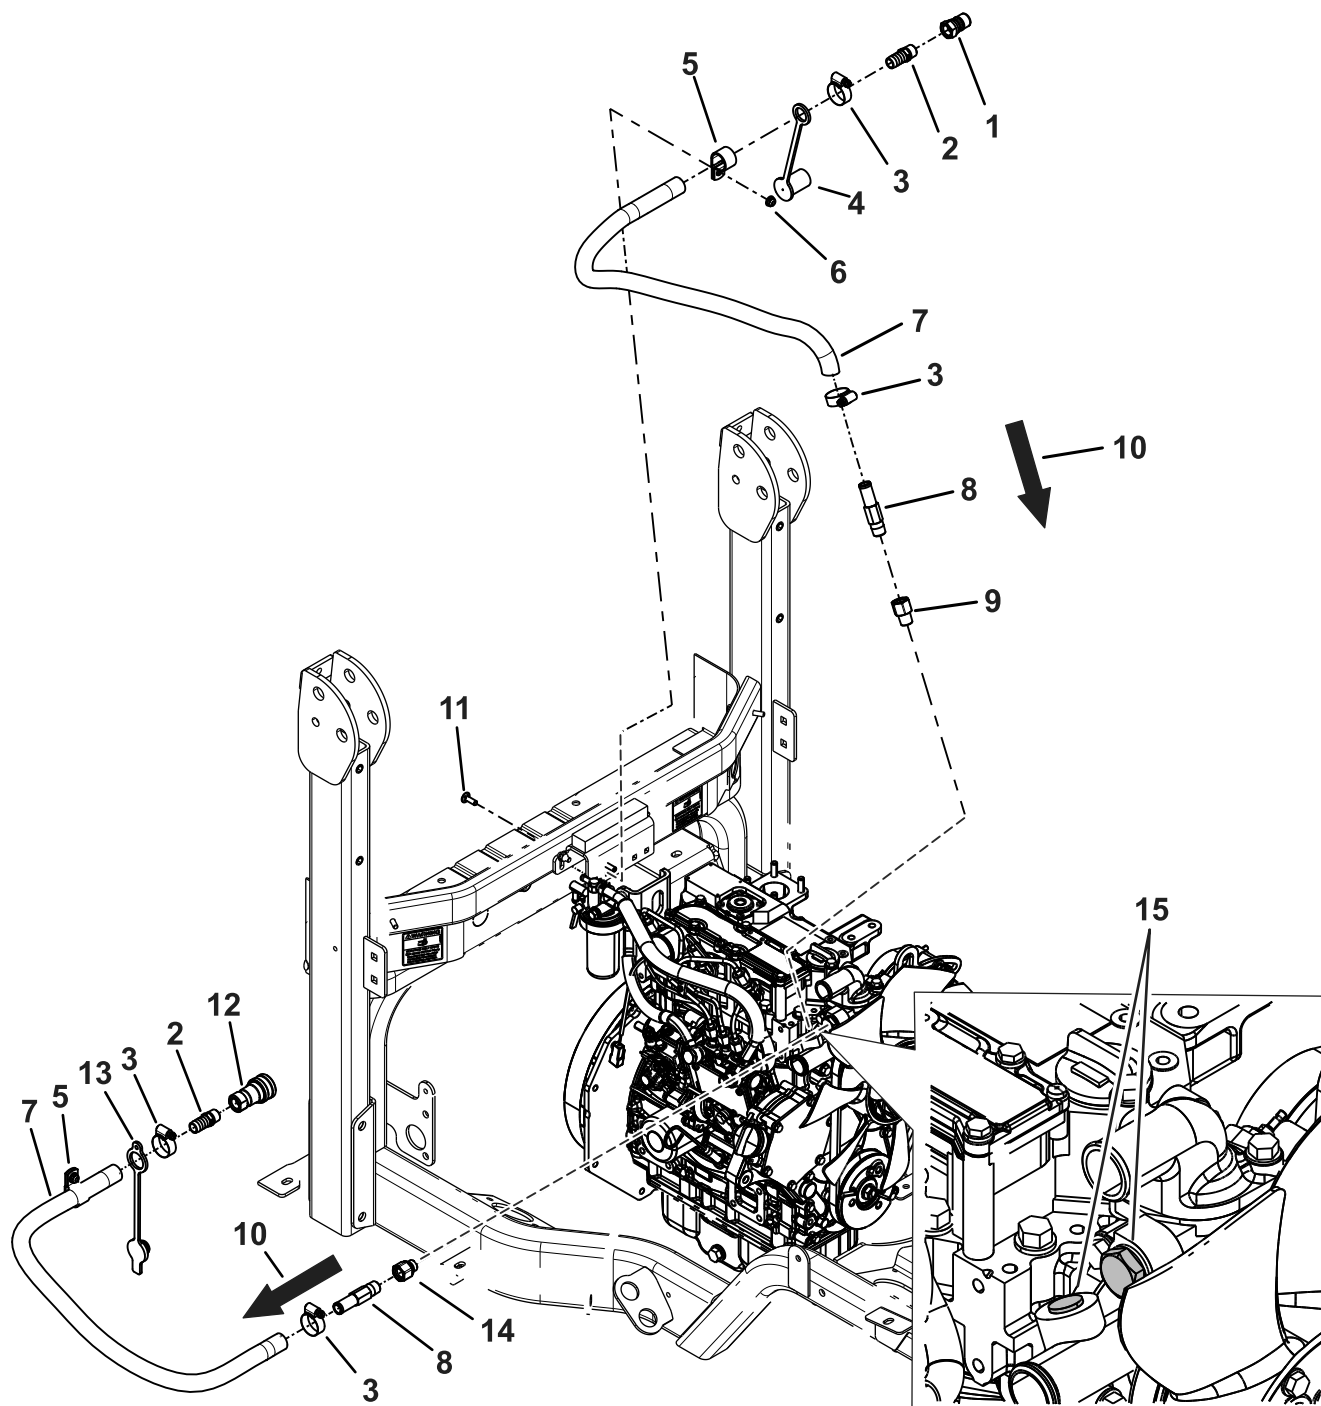
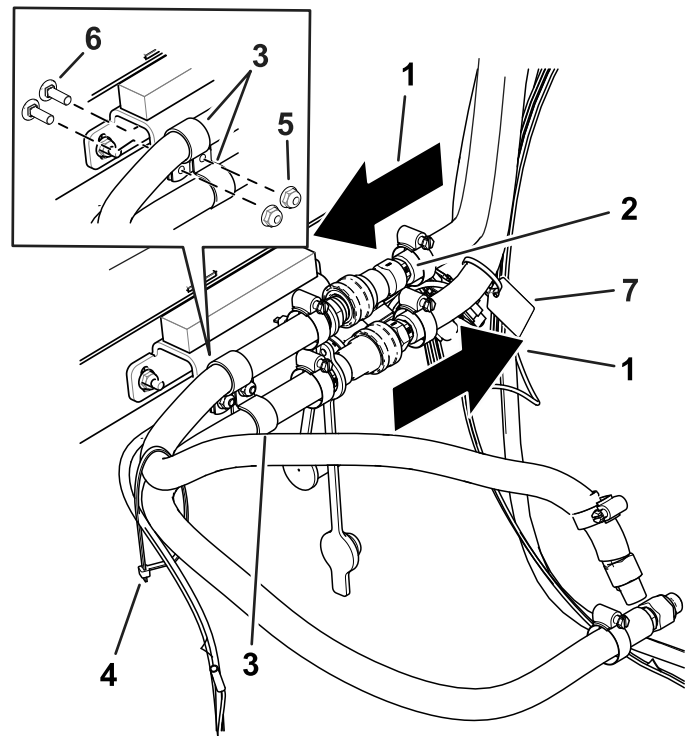

Figure 20
Figure 22
3. Slip the dust plug and dust cap over the barbed end of the assemblies (Figure 20).
4. Thread the straight fittings (3/8 NPT x 5/8 barb) into the male and female couplers (Figure 20).
6. Insert the barbed end of the assemblies into the hoses and secure them with the hose clamps (Figure 20).
7. Install the straight adaptor (3/8 inch) onto the engine fitting for the hose with the male coupler (Figure 20).
8. Install the straight adaptor (M16) onto the engine fitting for the hose with the female coupler (Figure 20).
11. Locate and remove the engine plugs shown in Figure 20.
16. Insert the hoses over the barb ends of the engine fittings and secure them with the hose clamps (Figure 20).
17. Install the R-clamps around the hoses (Figure 20).
18. Secure the hoses to the back of the cab with 2 carriage bolts and 2 nuts (Figure 20 and Figure 22).